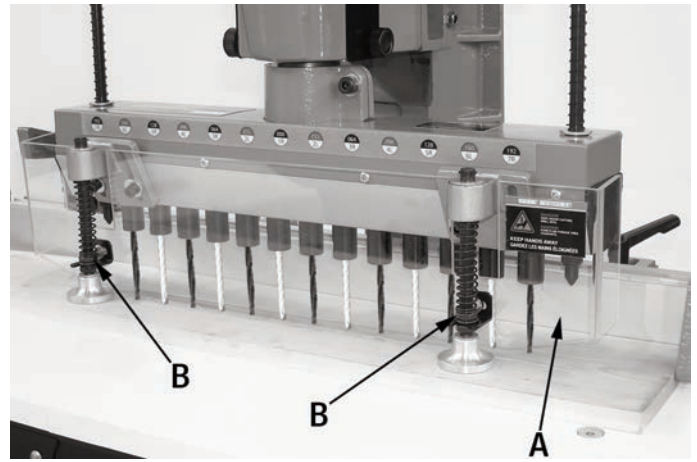

FIGURE 15
This machine is equipped with a transparent safety guard (A) Fig.15 which protects the user from chips created during operation. It also keeps the operator from coming in contact with the boring bits when changing the workpiece. The safety guard positions itself automatically.